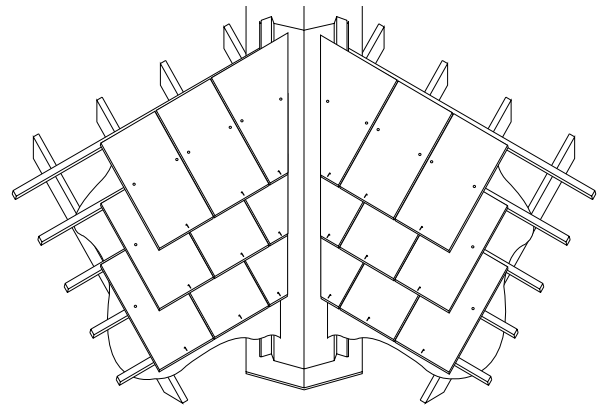

Fig. 26 - Open metal valley
- 6 Centre-nail valley slates, positioning rivets before fixing down. Ensure a 50mm overhang from the valley fillet and provide the required clear gutter to maintain an uninterrupted flow of water from the roof [Fig. 26, page 41].